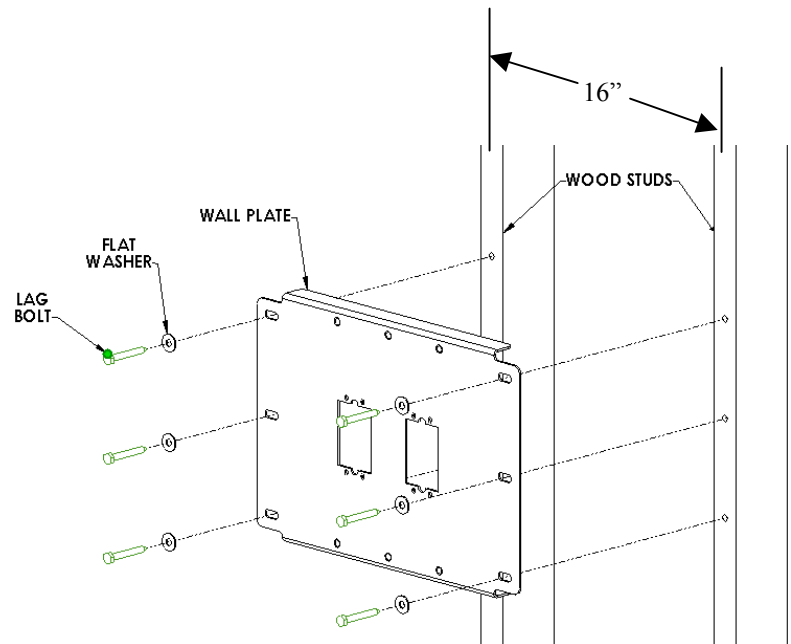

Figure 2. Install the Wall Plate
NOTE: The wall plate (10) must be mounted to wood studs that are 16" apart on center. See Figure 2.
1. Locate the wall plate (10), six lag bolts (20) and six flat washers (30).
1. Holding the wall plate (10) against the wall, use a pencil, awl, or small nail to mark the mounting holes where the top two pilot holes will be drilled into the center of the wood studs. Make sure that the mounting holes in the unit are level.
2. Using a 15/64" drill bit, drill two pilot holes for anchoring the wall plate (10). See Figure 2.
3. Using two 5/16" lag bolts (20) and two 5/16" flat washers (30), fasten the wall plate (10) to the wall. See Figure 2.
5. Repeat step 3 to install the remaining four 5/16" lag bolts (20) and four 5/16" flat washers (30) into the wood studs and to secure the wall plate (10).